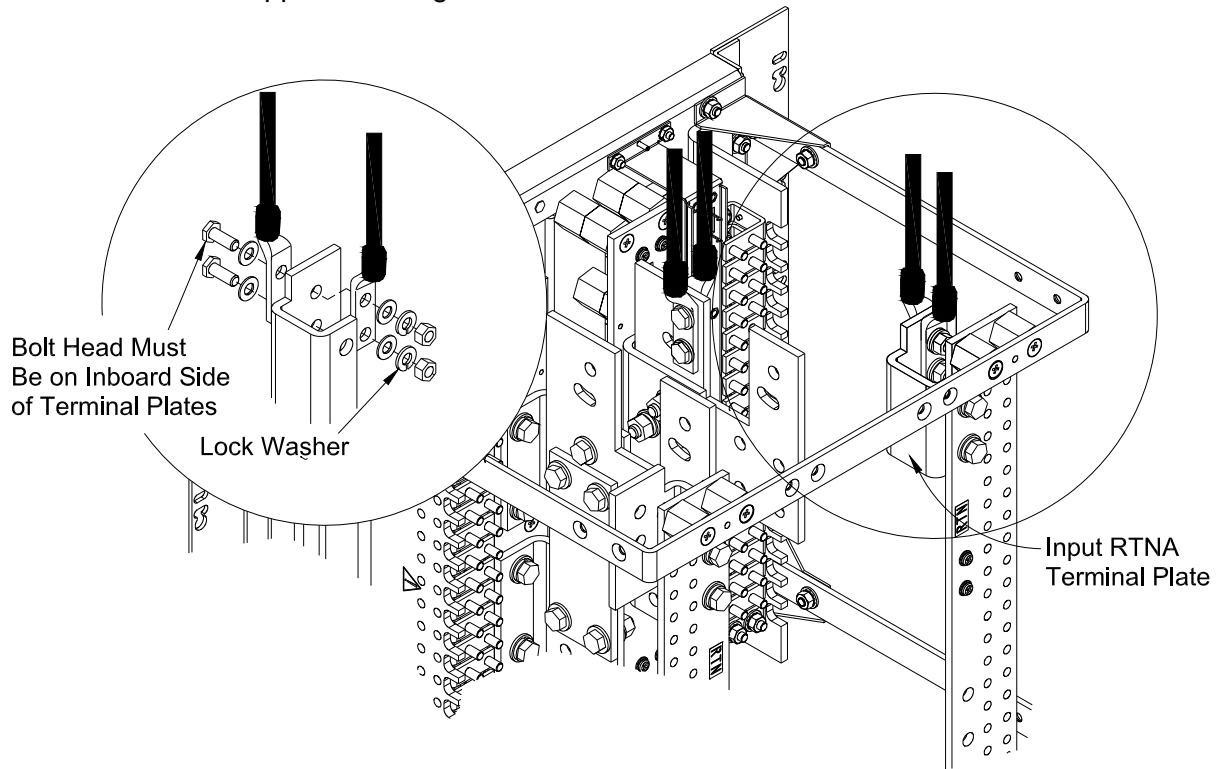

Figure 15 - Securing the Input RTN
- e. Use a $\frac{3}{8}$ -16, grade 2 bolts, washers, and nuts (all provided) to secure the first pair of RTN cabling to the RTN input bus terminal plate. (See Figure 15.)